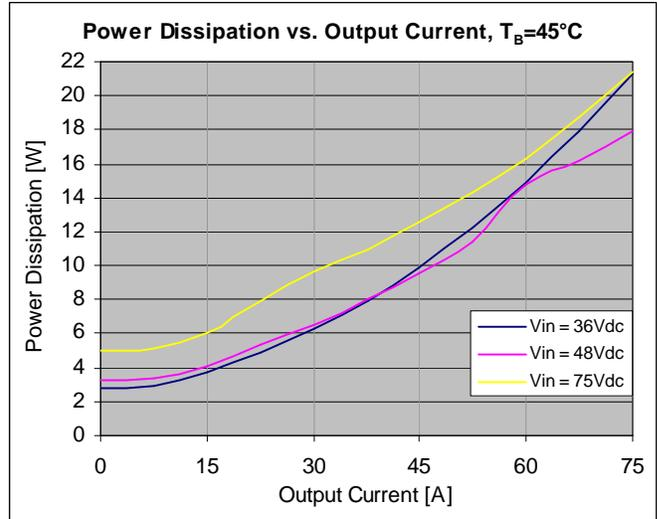

Figure 6. Power Dissipation vs. Load Current at Baseplate Temperature, $T_B = 45^\circ\text{C}$.
4. Appropriate Thermal Derating applies. See Figure 6.